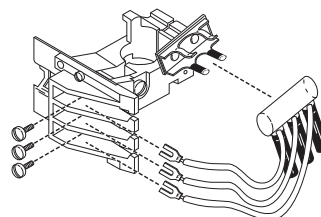

Figure 3
3. Remove mercury switch from clips **B**, **Figure 3**.
6. Connect switch leads to terminal block **A** on identical post positions as those in the original assembly. **Figure 3**.